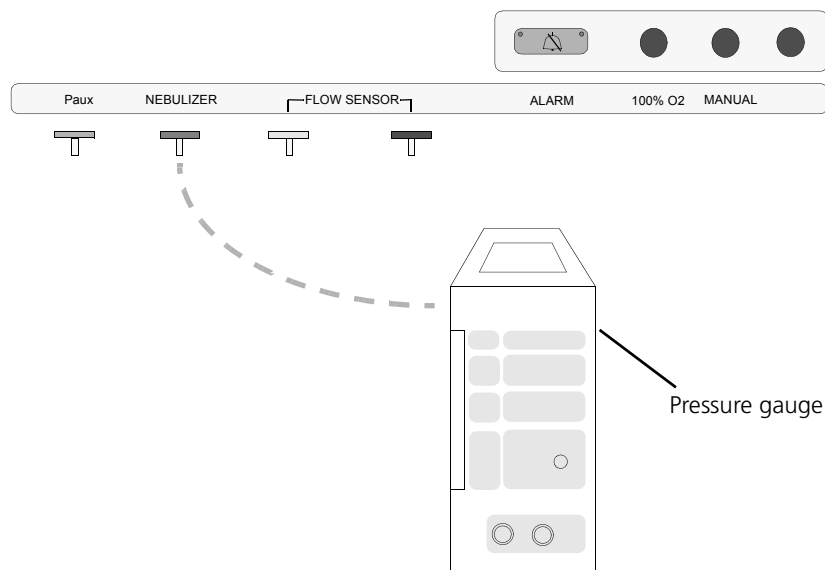

Figure 9-41. Setup for checking the nebulizer compressor and valve
2. Connect the pressure gauge to the nebulizer connector as shown in Figure 9-41, using a pressure probe suitable for measuring about 2000 mbar.